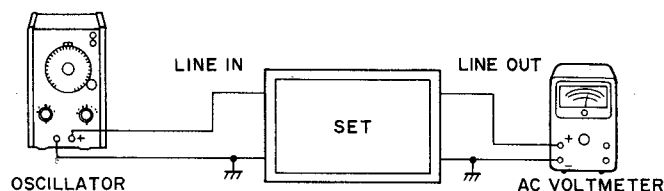

Figure 24
- (1) Make the connections as shown in Figure 24 and turn the power ON.
- (2) Insert the metal tape (TDK AC-712) into deck B and set to REC PLAY mode. Set the REC LEVEL volume to the maximum.
- (3) Input the 400 Hz/150 mV +/-2 dB (oscillator output) signal into the line input in the mode set in (2) and make sure that the line output is 550 mV at that time.
- (1) Make the connection as shown in Figure 24 and turn the power ON.
- (3) Input the 400 Hz/150 mV \pm 2 dB (oscillator output) signal to the line input in the mode set in (2), and adjust the line output to 550 mV at that time. Adjust VR8001 (VR8002) observing the level meter of the set so that all the level indicator lamps of L (R) light up at once, and then readjust it so that the +6 indicator lamp goes out.